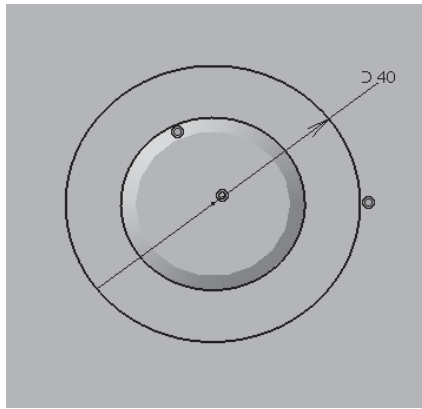

Figure 11-87 Sketch of the Pad feature for creating the Guide Bush
2. Select the top face of the Guide Pillar as the sketching plane and draw two concentric circles. Make the inner circle coincident with the outer edge of the Guide Pillar and apply the dimension to the outer circle, as shown in the Figure 11-87.